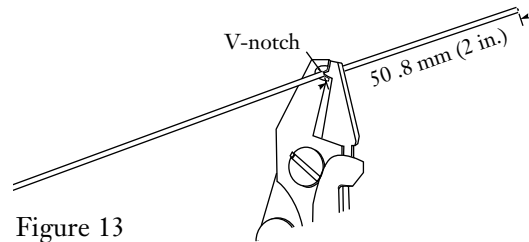

Figure 13
**5.4** Measure and mark the required strip length on the 900  $\mu\text{m}$  TBII® buffered fiber. Use the fiber optic stripping tool to remove the coating- for longer lengths, strip a maximum of 2 inches (50.8 mm) at a time (Figure 13).